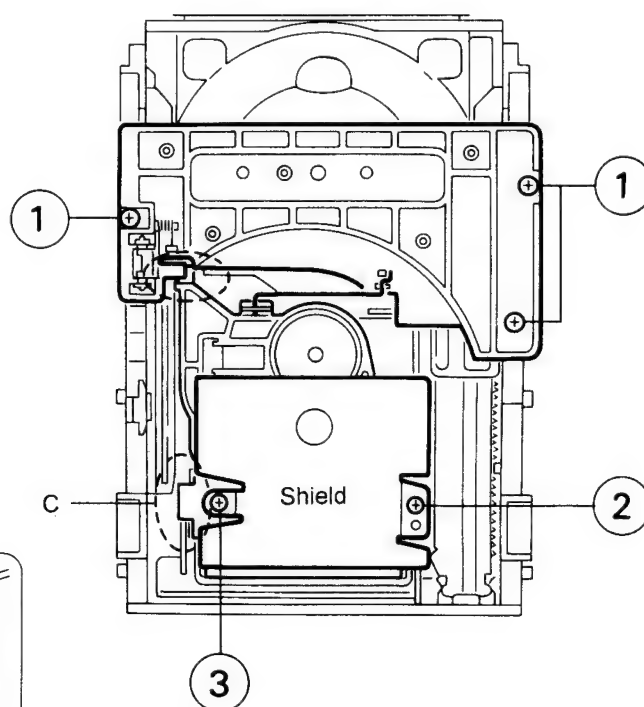
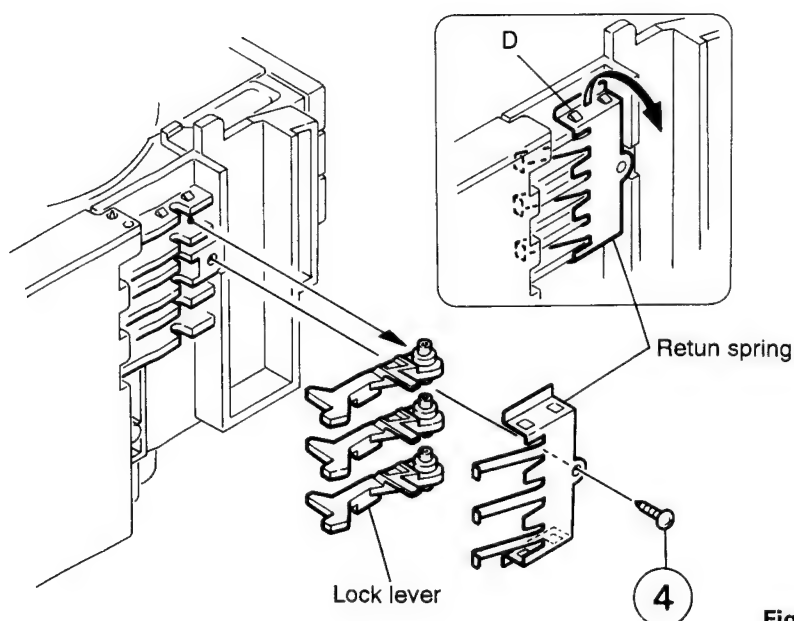

Fig. 5-26
Fig. 5-27
6. Remove the two screws (2 and 3) retaining both of the shield and clamber assembly (See Fig. 5-26).
7. Remove the shield from the section (C) retaining the clamber assembly (See Fig. 5-26).
8. From the left side face of the chassis assembly, remove the one screw (4) retaining both of the return spring and lock lever.
9. By removing the pawl at the section (D) fixing the return spring, dismount the return spring (See Fig. 5-27).
10. Remove the three lock levers (See Fig. 5-27).